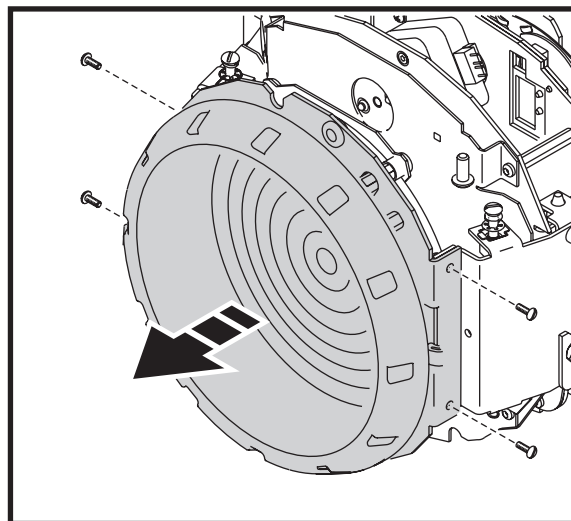

Figure 2
4. See Figure 2. Remove the four crosshead retaining screws from the front lens assembly and remove the front lens. The screws have Loctite applied at the factory, so take care when removing them. Store the front lens for possible re-use if the fixture is to be returned to standard MAC 250 Wash configuration at a later time. You can send the screws for scrap metal recycling, because new Torx screws are supplied in the Kit.